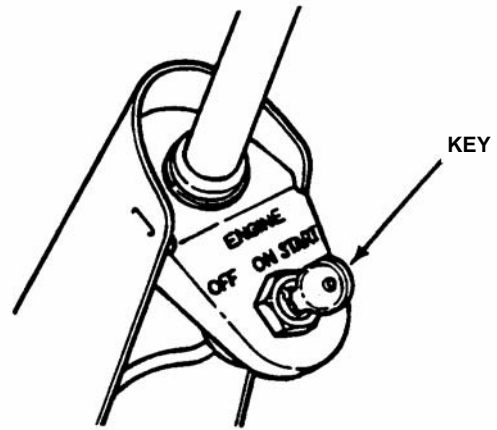

FIGURE 2.9
6. Turn key to "ON" position. See Figure 2.9.